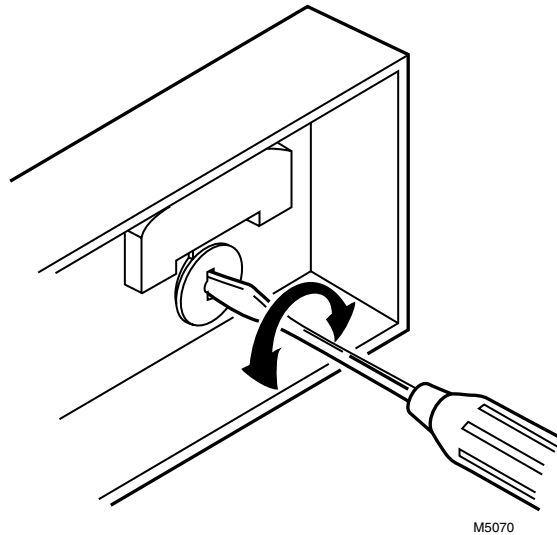

Fig. 15. Thermometer calibration.
5. If the readings are different, insert a small screwdriver in the thermometer slot and turn it until the thermometers have the same reading. See Fig. 15.